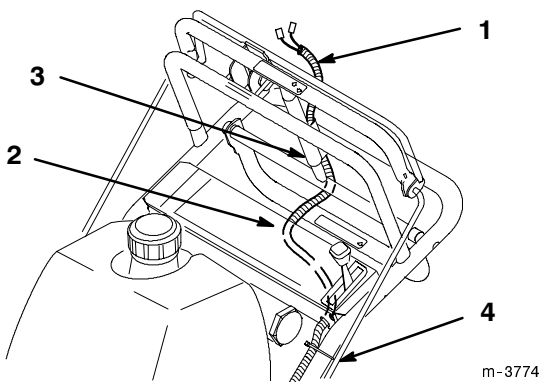

Figure 3
4. Route wire harness inside of frame, along left handle and over throttle cable. Compress wire harness covering and press into lower and upper holes in rear of control panel (Fig. 3).
5. Thread harness up through rear tube of traction handle (Fig. 3).
8. Secure wire harness and throttle cable to left handle, away from PTO lever, with wire tie (Fig. 3).